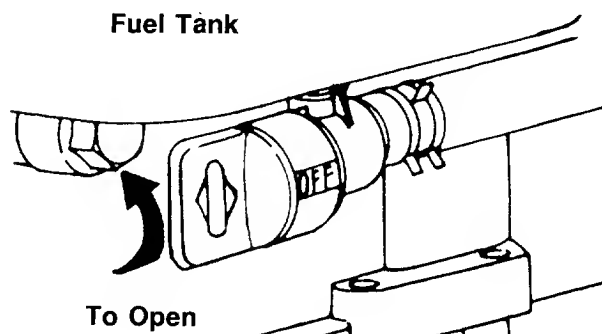
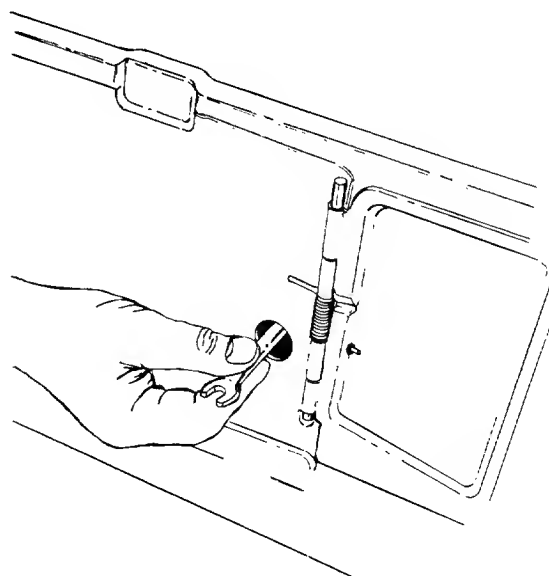

FIGURE 18.
FIGURE 19.
4. The fuel shut-off valve is located beneath the fuel tank. An access hole is provided in the catcher panel. The fuel shut-off valve should be in the open position. See figure 18. Open fuel shut-off valve using a wrench if it is closed. See figure 19.
2. Standing behind the unit, depress the blade control handle and hold it against the upper handle as shown in figure 19. Be certain the drive clutch handle is released.